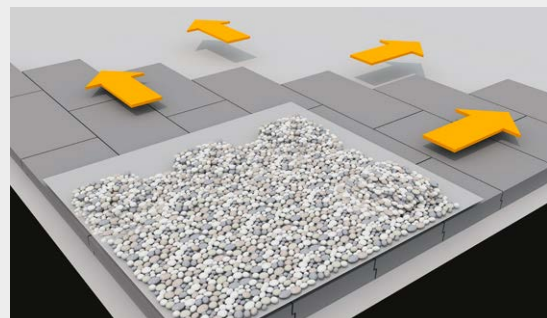

Figure 10
- 8 Lay the ballast layer progressively. Work on an advancing front away from the point of access so all ballast material is carried across a protected waterproof layer (**Figure 10**).